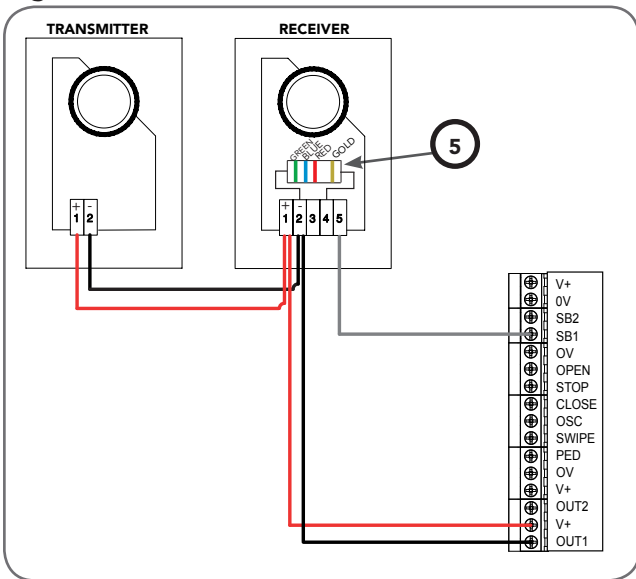

Fig 6.6
- a. Connect the Resistor 5k6 ohms (Green Blue Red Gold) ⑤ to number 2 (two) and 4 (four) terminal on the Safety-2 receiver (Fig. 6.6).